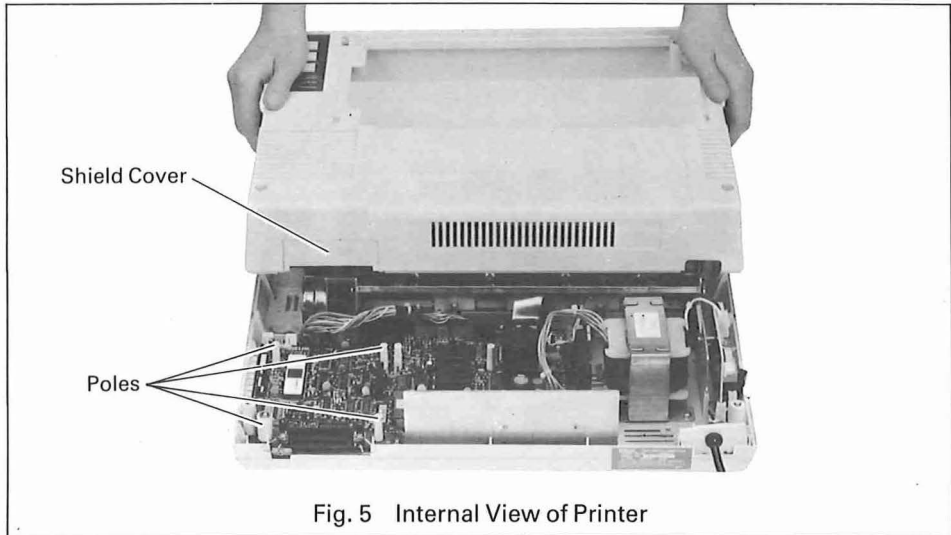

Fig. 5 Internal View of Printer
- (5) Remove the upper case and the shield cover. After the upper case has been removed, four poles are visible at the inner rear left of the printer. (See Fig. 5.)